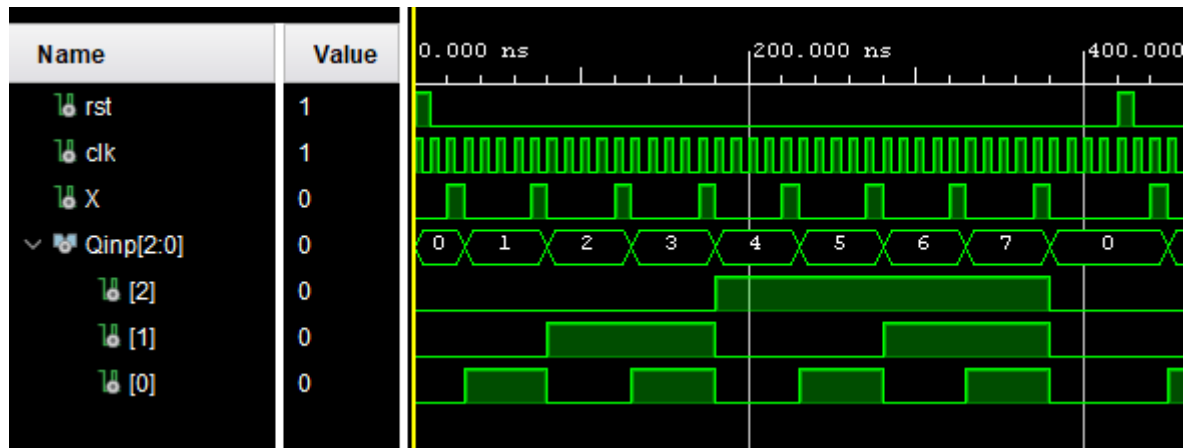

Figure 1 Example of acceptable simulation result. X is the push button, Qinp is the output of the circuit. You do not need to add reset.
- F) Functionally simulate your VHDL code of your design. Test all the possible case, see the Figure 1.